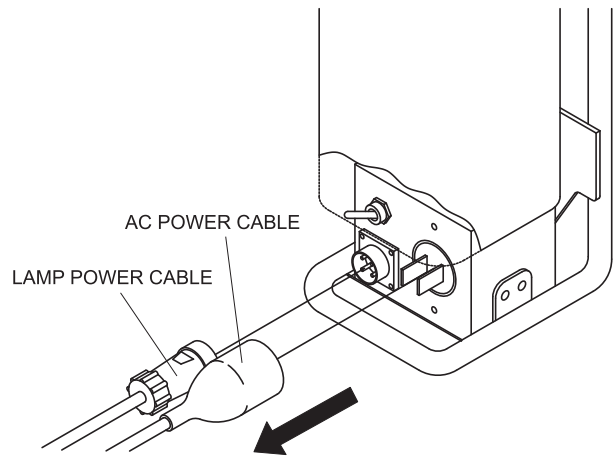

Figure 31. Cable Disconnection
2. Disconnect the AC power cable and Lamp Power Cable from the ballast (Figure 31).